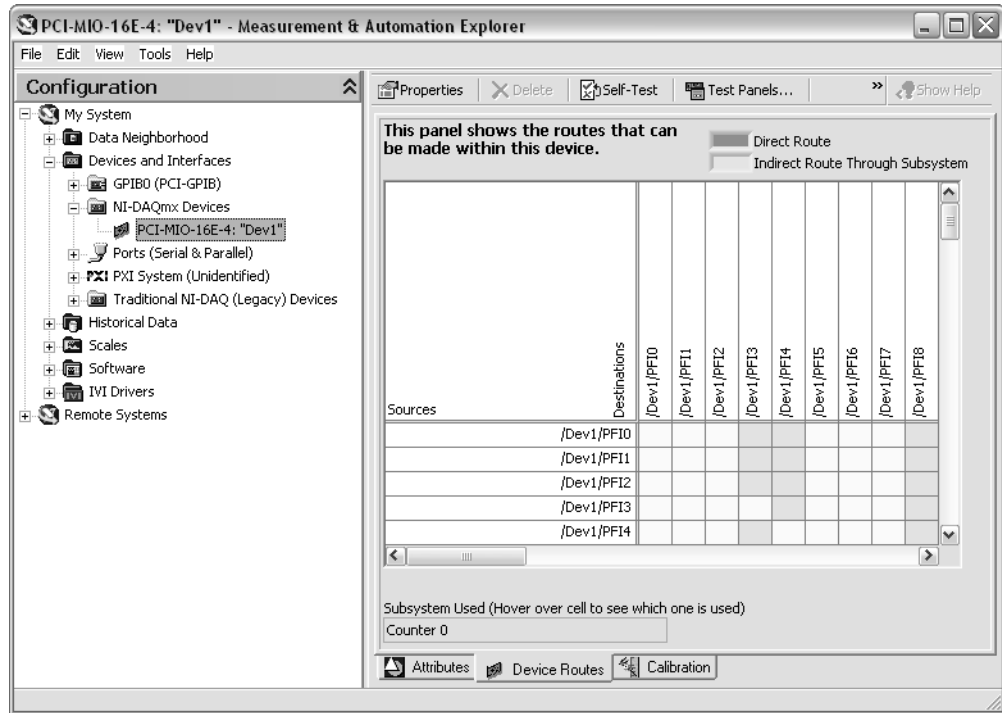

Figure 8-4. Device Routes
6. Select the **Device Routes** tab to see detailed information about the internal signals that can be routed to other destinations on the device, as shown in Figure 8-4. This is a powerful resource that gives you a visual representation of the signals that are available to provide timing and synchronization with components that are on the device and other external devices.